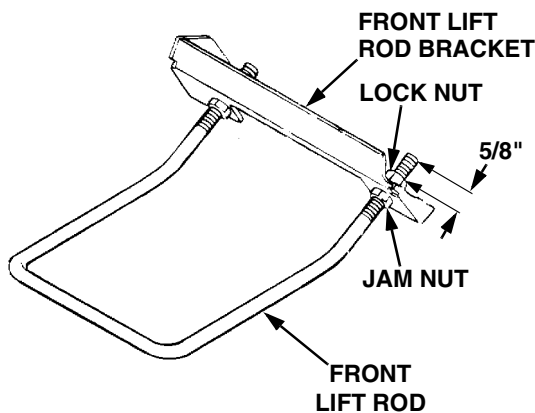

Figure 59
- If making the initial installation of the deck, adjust the front lift rod to allow 5/8 inch of thread to protrude beyond both lock nuts of the front lift rod/bracket assembly (Refer to Figure 59).
- To adjust the downward tilt of the blades, adjustment of the front lift rod is required. Refer to Figure 59 and proceed as follows: